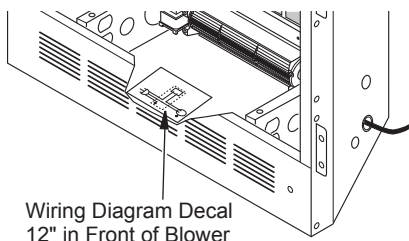

Figure 28 - Location of Wiring Diagram Decal (Model May Vary From Illustration)
10. Peel off backing paper and stick supplied wiring diagram decal on firebox bottom approximately 12" in front of blower (see Figure 28).
11. Peel off backing paper and stick supplied wiring diagram decal on firebox bottom approximately 12" in front of blower (see Figure 28, page 20).